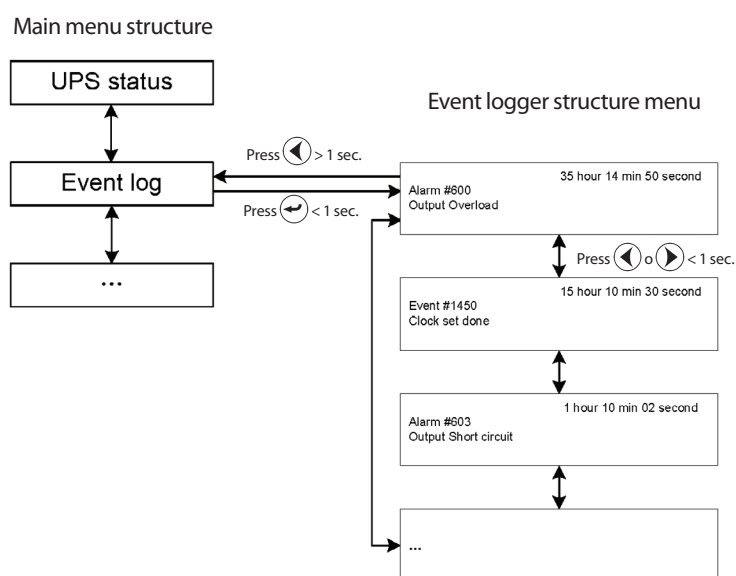

Fig. 35. Event logger submenu screens
- When pressing the key ◀ for less than 1 sec. from the "Event log" screen, it is accessed to the event data logger structure (see figure 35).